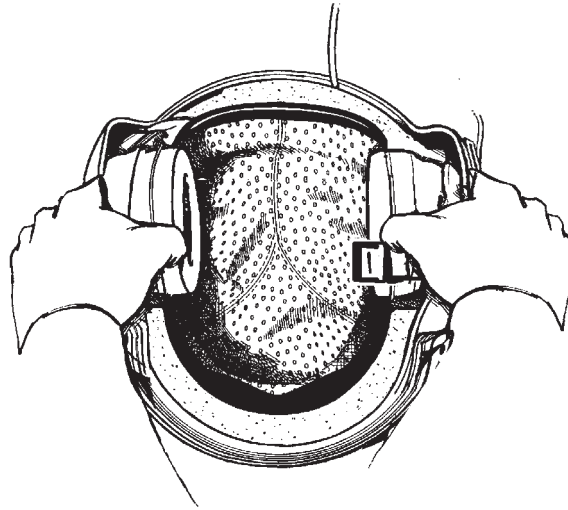

Figure 3-1. Grip for Donning Helmet
1. Referring to Figure 3-1, hook thumbs over earcups and spread helmet slightly.